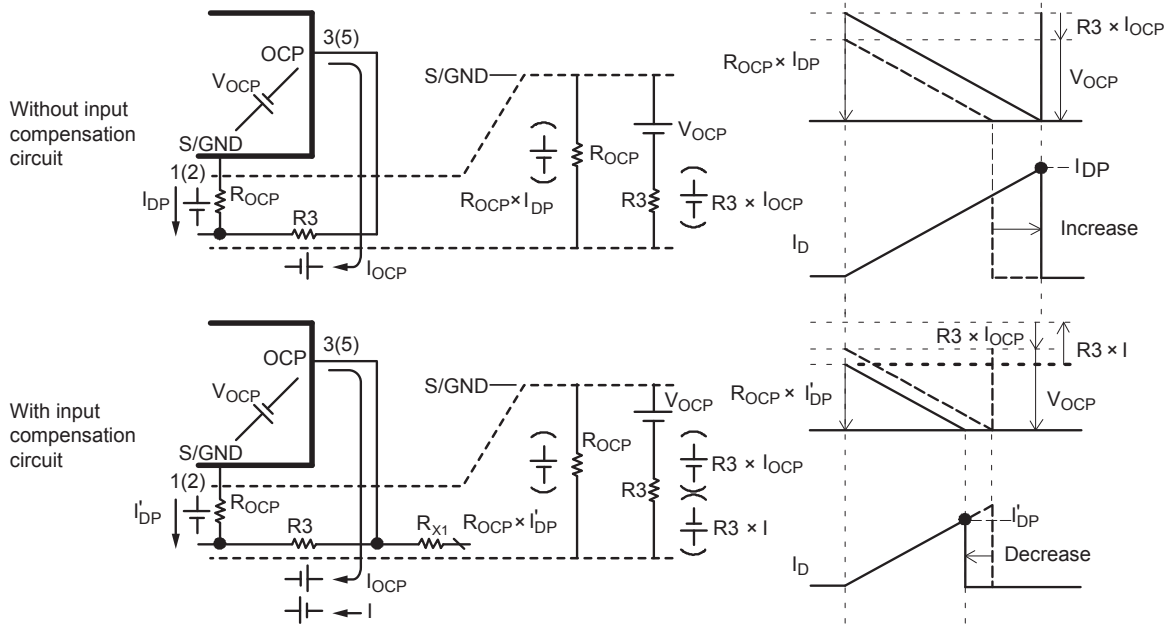

Figure 50. Compensated drain current waveforms
Without the input compensation circuit, as shown in the figure 50 upper panel, the overcurrent detecting voltage is equal to the sum of the Overcurrent Protection Threshold Voltage, $V_{OCP} = -0.60$ V, and the voltage across R_3 from the OCP pin source current, $I_{OCP} = -40$ μ A.
In the converse situation, with the input compensation circuit, as shown in the figure 50 lower panel, the overcurrent detecting voltage is equal to the sum of the Overcurrent Protection Threshold Voltage, $V_{OCP} = -0.60$ V, the voltage across R_3 from the OCP pin source current, I_{OCP} , and the voltage across R_3 from the input Compensation Current, I :
1. The overcurrent detecting peak drain current, $I_{DP(OC)}$, without the input compensation circuit, is expressed by the following, based on equation 6, from figure 50, upper panel:
2. On the other hand, the overcurrent detecting peak drain current, $I'_{DP(OC)}$, with the input compensation circuit, is expressed by the following, based on equation 7, from figure 50, lower panel: